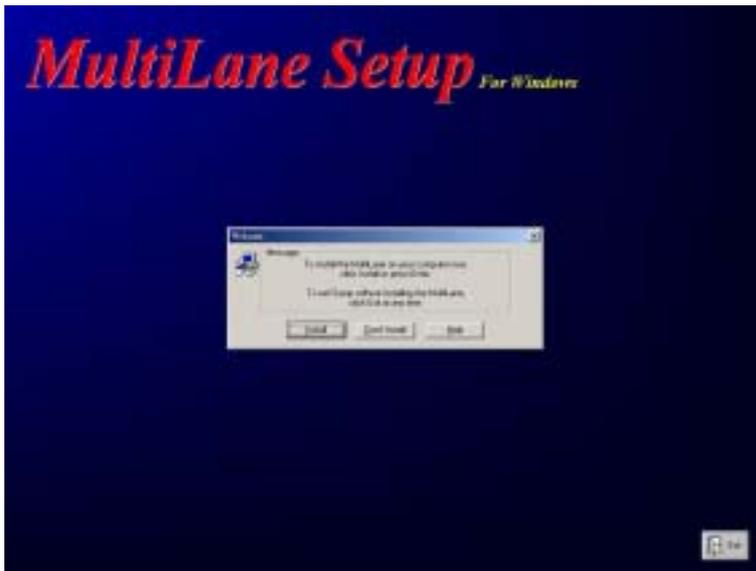

Fig. 34
- 4) Double click the 'SETUP' icon will display Fig. 34.